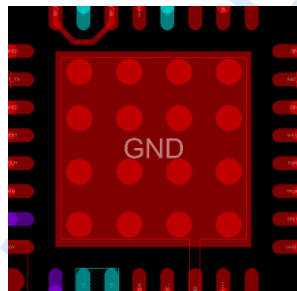

Figure 5-1 EPAD layout reference design
1. EPAD: VIA through-holes, dispersed in a 4×4 grid on the EPAD, as shown in Figure 5-1;